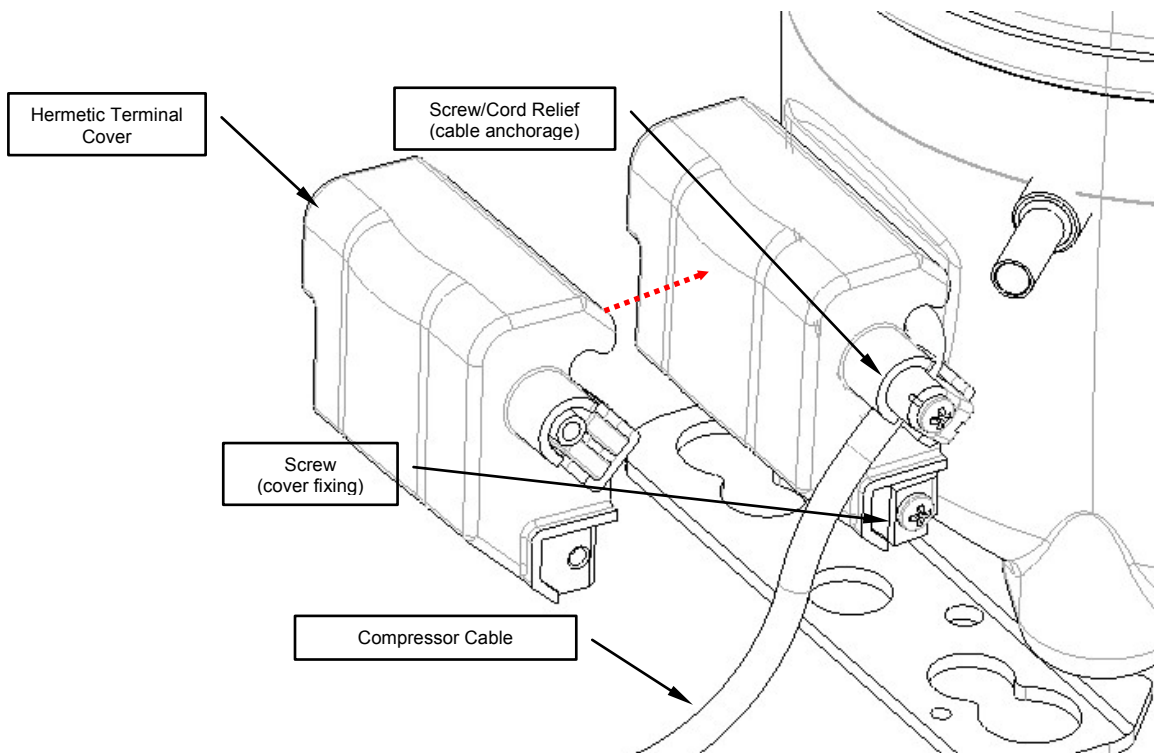

Figure 24 - Hermetic Terminal Cover fixing.
1. Put the Hermetic Terminal Cover on the compressor fence as indicated by the arrow on the Figure 24.